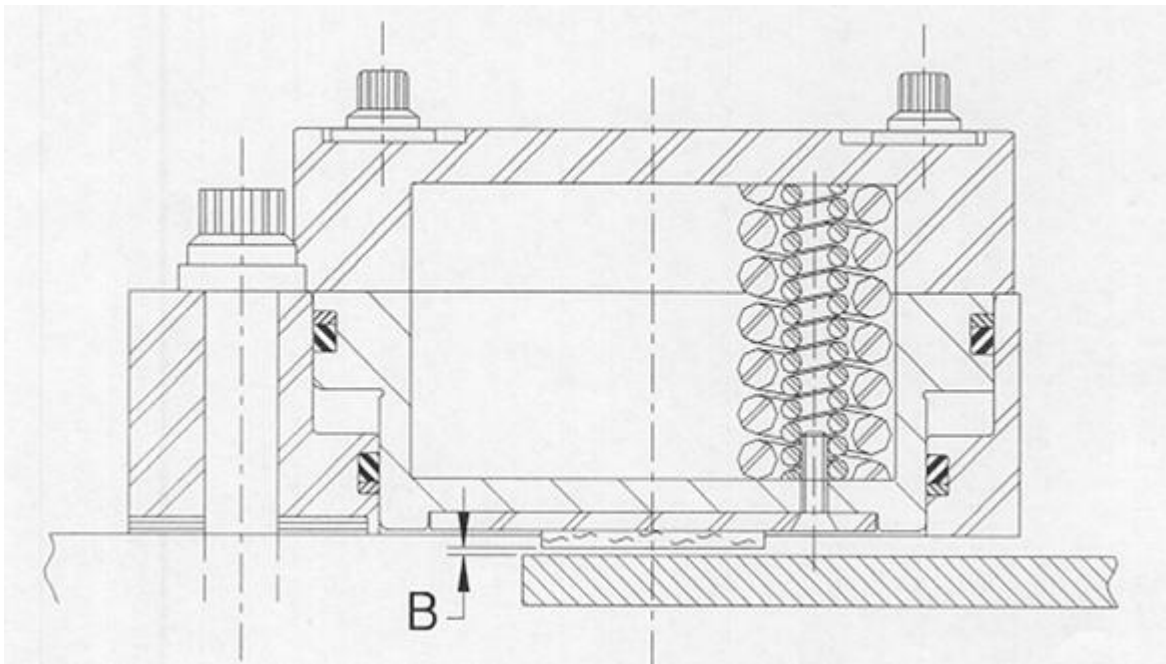

Figure 3
4.7.1 With the parking brake released (pressure applied) measure the clearance between the parking brake lining and disc with a feeler gage. (See dimension "B" in Figure 3)